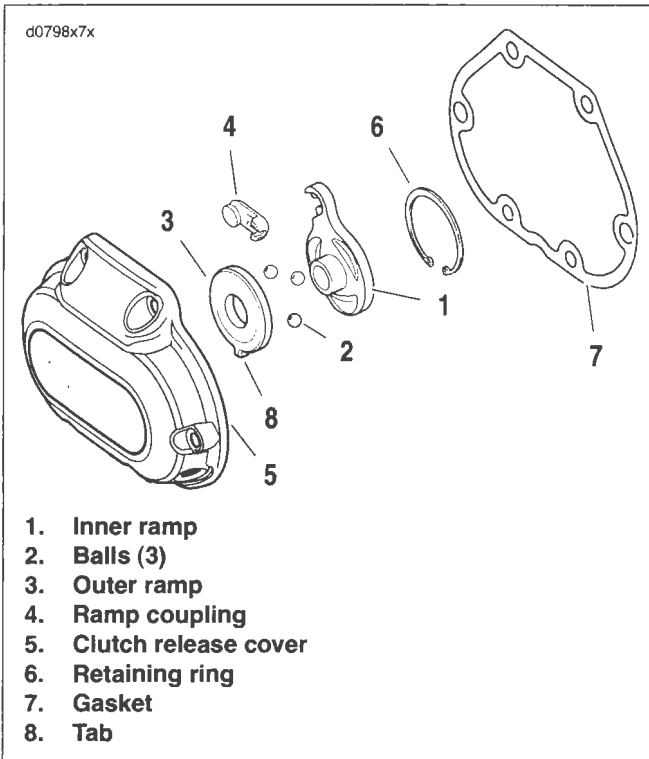

Figure 7-8. Release Mechanism Assembly
1. See Figure 7-8. Wash the ball and ramp mechanism components in cleaning solvent.
2. Inspect the three balls (2) and ball socket surfaces on ramps (1, 3) for wear, pitting, surface breakdown and other damage. Replace damaged parts.
3. Check fit of the ramp coupling (4) on inner ramp (1). Replace both parts if there is excessive wear.
5. Check the bore in the cover (5) where the ramps (1, 3) are retained. There should be no wear. Lips worn into the bore that would catch the ramps and cock them, causing improper clutch adjustment.
2. See Figure 7-8. Place outer ramp (3) in clutch release cover and place balls (2) in slots. Be sure tab (8) is in clutch release cover slot.
3. Connect cable end to ramp coupling (4). Install coupling on inner ramp (1) and place inner ramp and coupling in position in clutch release cover (5).